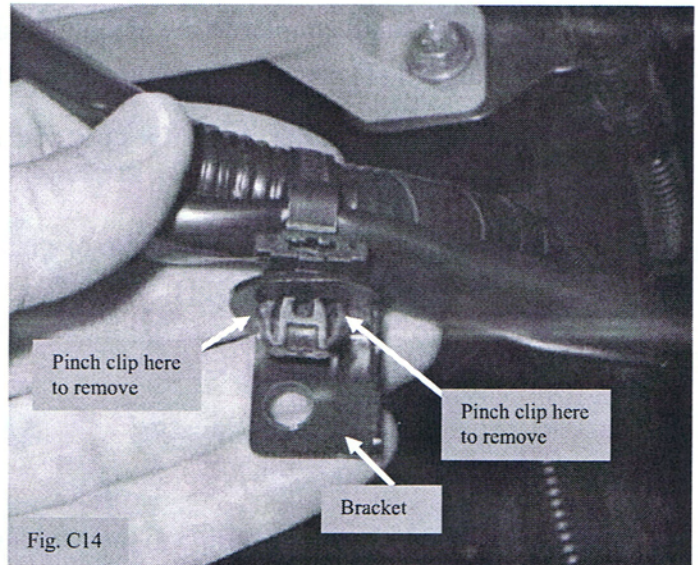

Fig. C14
18. Remove wire loom bracket from VSV/MAF sensor wire loom. (Fig. C14)